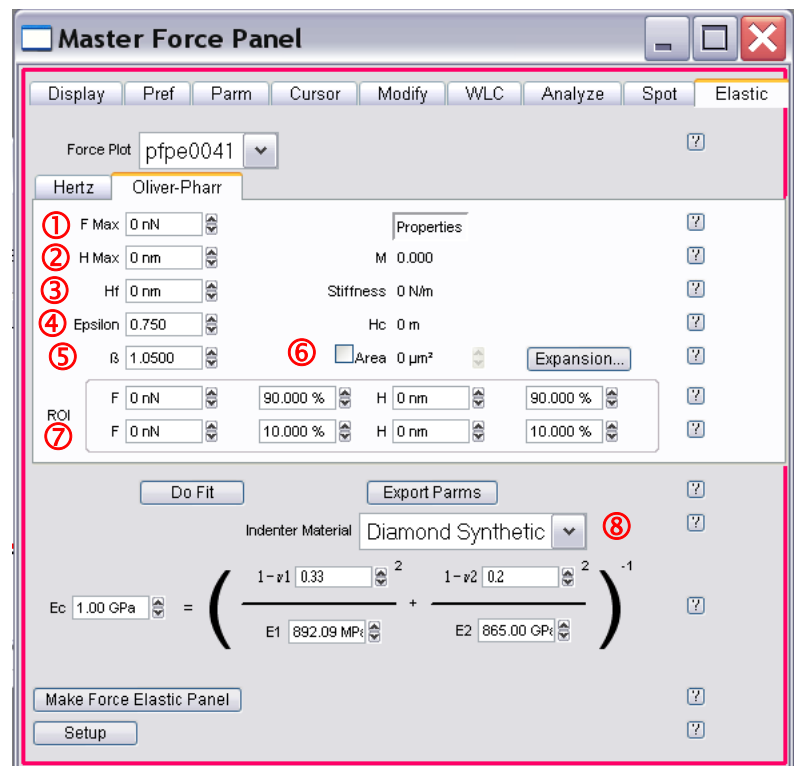

Figure 11.5.21.X: Elastic sub tab with Oliver-Pharr fitting:
Figure 11.5.21.3: B) Colloidal probe microscopy on some kind of cell with 5μm sphere affixed to cantilever: A) Force vs. indentation; B) XY offset to define contact point; install cursors (Blue at 10nm deflection: shown with fit from parameters in C) Hertz tab.; $k=0.32 \text{ N/m}$.
•An example of cantilever based indent fit with Hertzian mechanics can be seen in Figure 11.5.21.4 in which a bio polymeric particle (~3μm dia. x 1μm) was indented in water with a 0.815 N/m SiNx lever. The fit 100pN of load was fit with the cursor locks and the tip was approximated as a 30 nm sphere based on nominal tip manufacturer sharpness. Panel A shows the corresponding fit, while Panel B shows the Hertz subtab parameters used, and resulting sample modulus of ~11kPa.
Figure 11.5.21.4: Cantilever based indent on biopolymer particle Force (Y) vs Indentation (X): A) cursor locks at ~ zero point and 100pN, and corresponding fit based on parameters in B). SiNx lever in fluid with $k=0.815 \text{ N/m}$; InvOLS = 26.45 nm/V. Sample courtesy of DeSimone lab (UNC-CH Chemsitry)